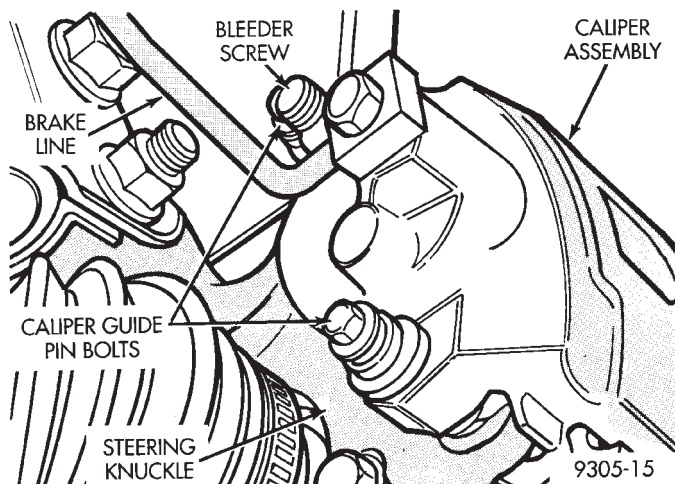

Fig. 1 Disc Brake Caliper Mounting
(1) Raise vehicle on jackstands or centered on a frame contact type hoist. See Hoisting in the Lubrication and Maintenance section of this manual, for the required lifting procedure to be used for this vehicle.
(2) Remove the front wheel and tire assembly from the vehicle.
(3) Remove the front caliper assembly from the front steering knuckle assembly (Fig. 1). Refer to Front Disc Brake Service in the Brake Section of this service manual for caliper removal procedure.